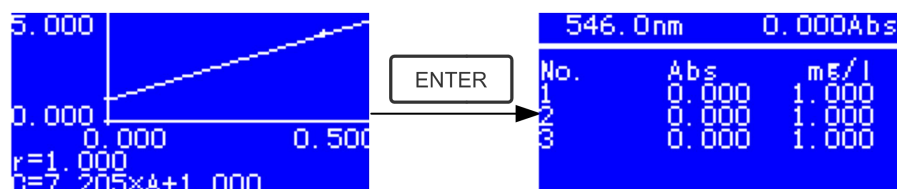

Fig. 4-12
- ★ Pull the Reference solution in the light path and press ENTER to go into the continuous measurement interface. (Fig. 4-12)
- ★ Press to go into sample continuous measure interface and measure samples. (Fig. 4-12)